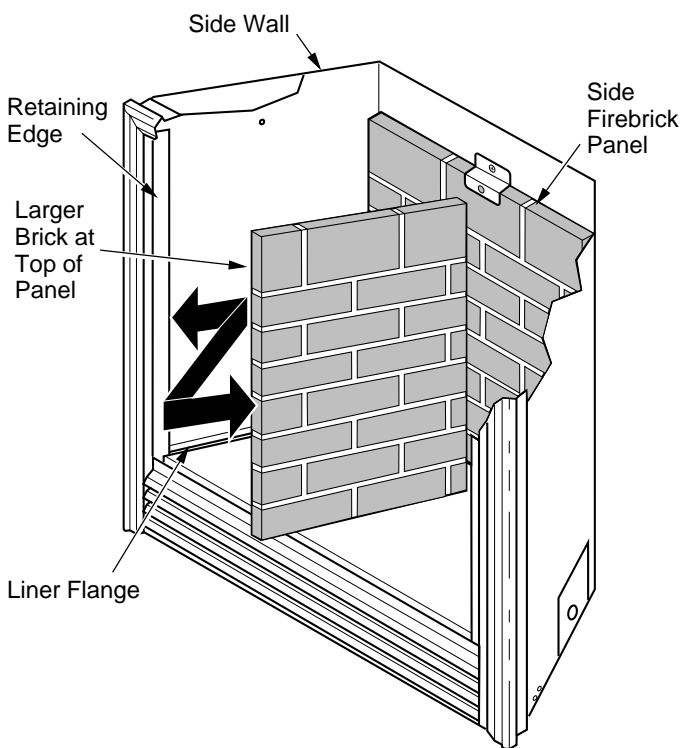

Figure 5 - Placing Side Firebrick Panel Behind Retaining Edge
- With larger brick at top of panel, slide one side firebrick panel behind the retaining edge of fireplace. Gently press the firebrick panel back against the side wall (see Figure 5, page 3). The bottom edge of the firebrick panel will rest on liner flange.